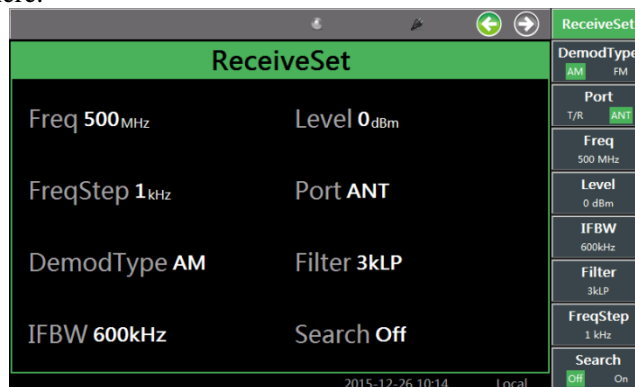

Fig. 4-9 Receiver Setting Window
- Setting of conventional parameters such as the port: when the RF meter window is opened, the receiver setting window will pop up at the same time. Click the interface or the right soft key menu, and set the receiver port, frequency, reference level, IF bandwidth, automatic search, etc., as shown in Fig. 4-9. The setting method and procedures are the same as those of RF frequency error measurement and thus not repeated here.